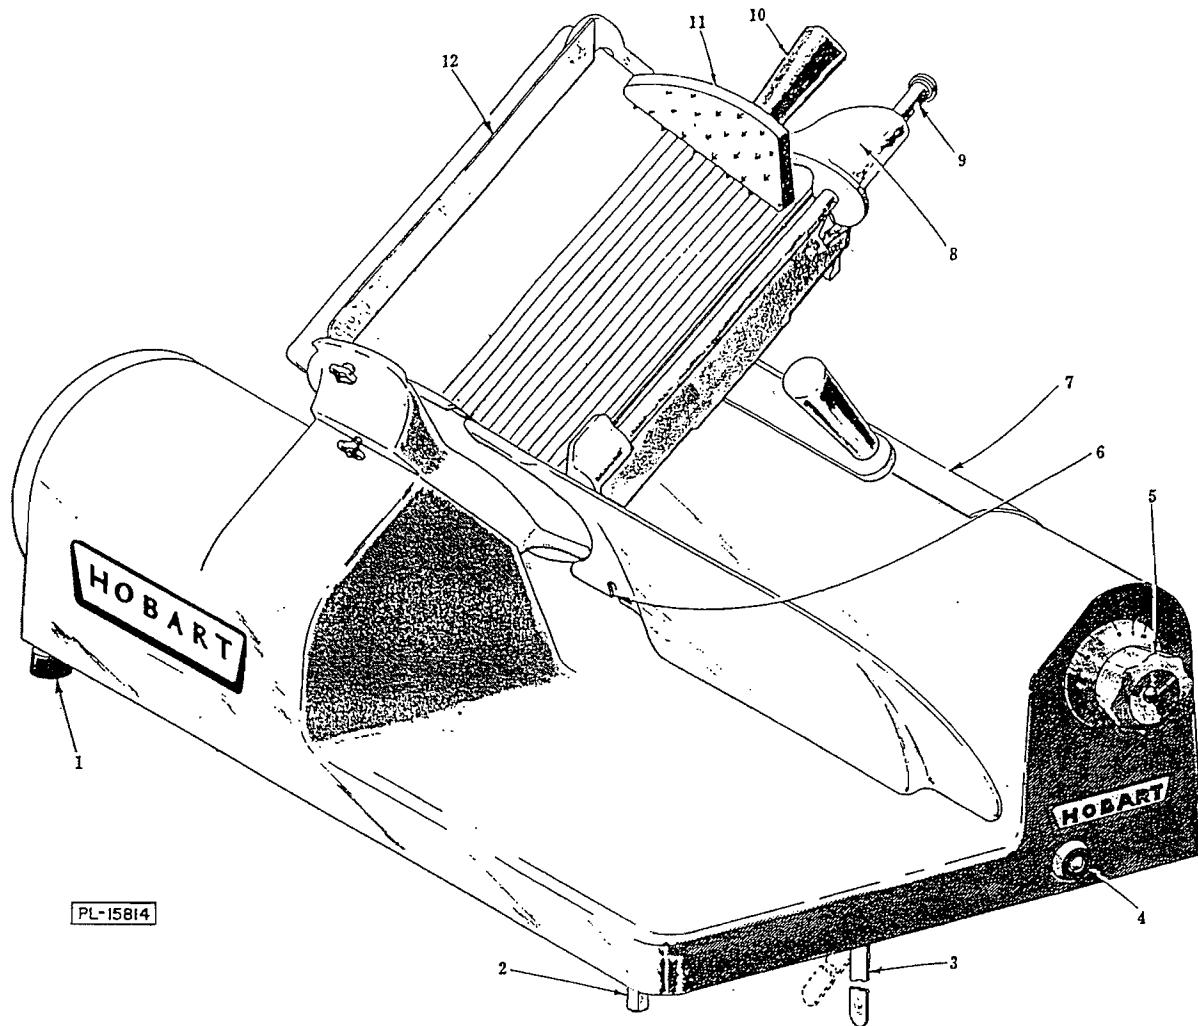

Fig. 1
The three rubber feet (1, Fig. 1) are assembled, but the one helper foot (2, Fig. 1) is removed when the machine is packed for shipment. The helper foot is shipped in a cloth bag and should be installed to the end of its thread at the corner of the base as shown (2, Fig. 1).
Before making electrical connections, CHECK THE SPECIFICATIONS ON THE NAME PLATE (7, Fig. 1) TO MAKE SURE THEY AGREE WITH THOSE OF YOUR ELECTRICAL SERVICE.
The knob or dial (5, Fig. 1) adjusts the thickness of the slices cut. The numbers on the dial do not indicate actual measurements, but are helpful in duplicating past performances. To obtain the maximum slice thickness, it is necessary to turn the knob beyond one complete revolution.
The hub of the meat grip arm (8, Fig. 1) has a shape which prevents swinging the grip (11, Fig. 1) out of the carriage tray to a position where it could mar the finish of the machine. Do not try to force this arm. The grip moves freely at the proper positions and it must be at the top of the slide rod (9, Fig. 1) to swing clear of the tray. When the grip is not needed, move it out of the way by the following procedure:
- Lift the grip to the top of the slide rod (9, Fig. 1).
and picnic cuts. For holding odd shapes or short end pieces, use the meat grip (11, Fig. 1). Hold the handle (10, Fig. 1) in your right hand, and press the grip down on the meat at a convenient location. The grip swivels so that the spiked surface can be adjusted to the most advantageous position for holding. The carriage can then be moved back and forth with the same hand that holds the grip. The left hand is then free to receive the slices as they come from the knife. The slices may be stacked on the tray surface of the base, which is easily kept clean. A loose tray or platter may be used if so desired. The slicer is turned "ON" and "OFF" by the illuminated switch (4, Fig. 1) (pull to start, push to stop).
**UNPLUG ELECTRICAL POWER CORD** and clean the surface of the machine daily. Make sure the knife guards are in place and the slice adjusting knob is at zero when performing this operation. A pivoting cleaning foot (3, Fig. 1) may be used to support the slicer in a raised position while cleaning. After the cleaning operation fold this foot to its retracted position.
- e. Unscrew the thumb screw on the sharpener until the sharpener slips upward into the slot (6, Fig. 1) at the bottom of the gauge plate. Push the sharpener firmly upward, with the right hand, to remove any rocking tendency. Tighten the thumb screw with the left hand.
Keep the meat grip slide rod (9, Fig. 1) clean but do NOT lubricate it.